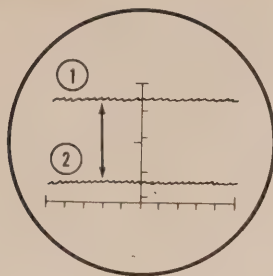

Figure 3
- ( ) Carefully adjust the signal generator to the point where the CRT trace moves as far above the screen base line as it will go, as shown at 1 of Figure 3. Reduce the signal generator output if the CRT trace moves upward and completely off the tube screen.
- ( ) Adjust the slug of coil L1 until the CRT trace moves down toward the screen base line. The correct adjustment of L1 is at the point where the CRT trace moves the closest to the screen base line. See 2 of Figure 3.